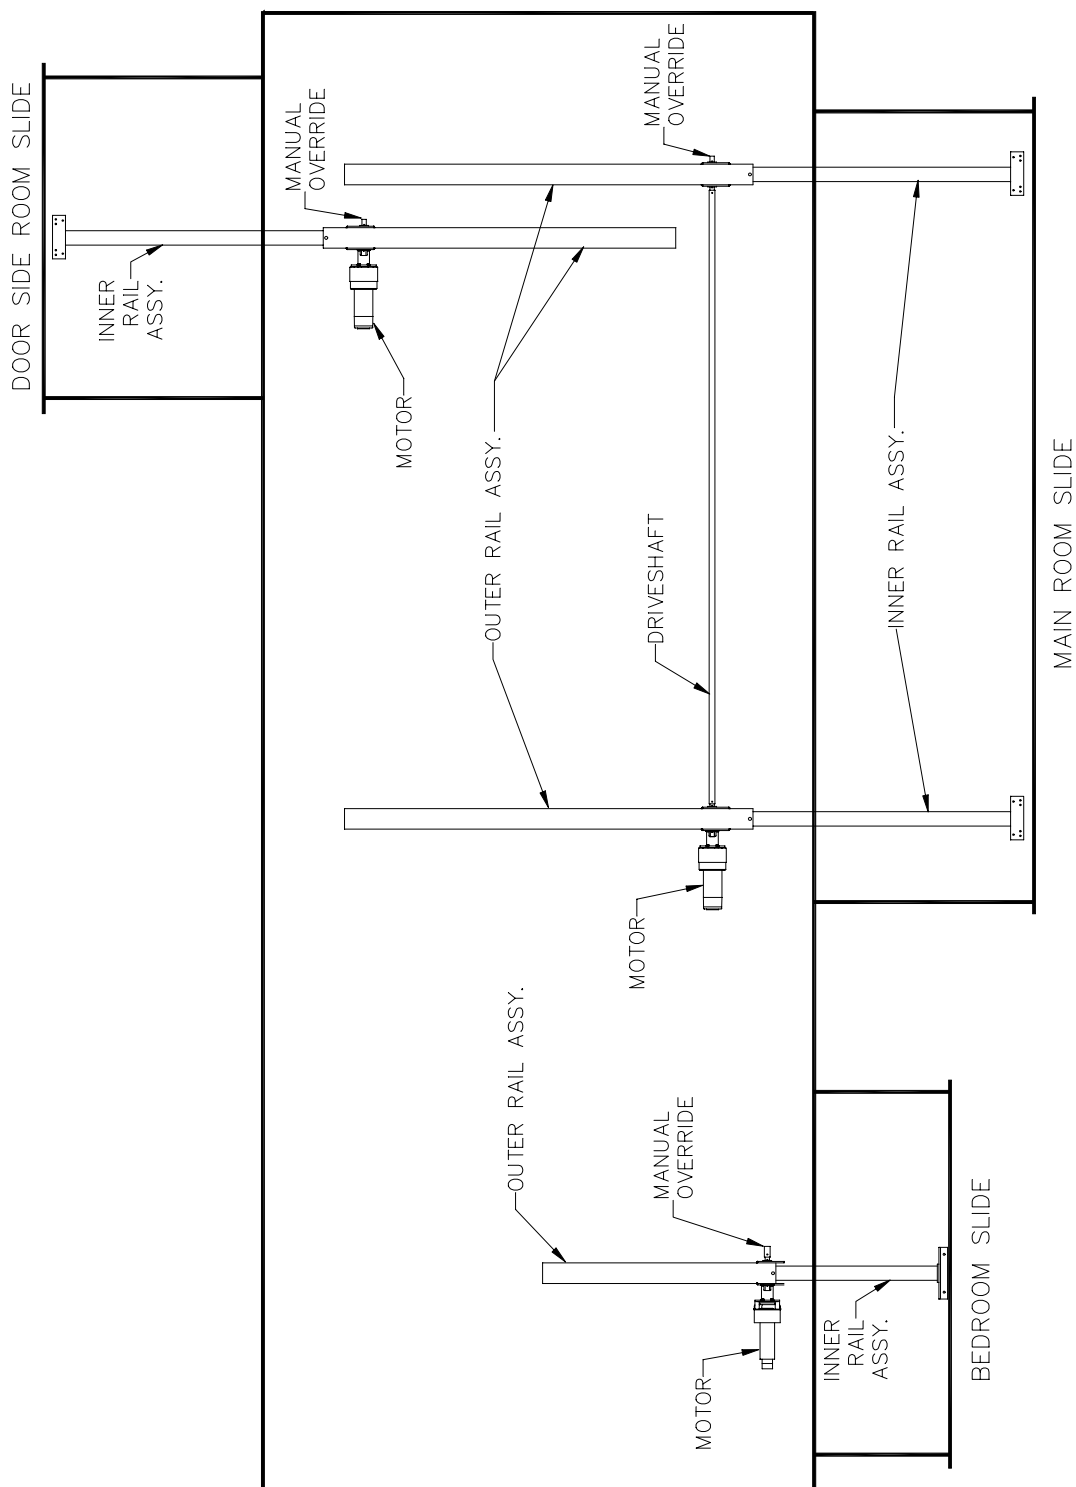

Fig. 4 Motor and Manual Override General Location
3. Locate the slideout motor (Fig. 4). It will be mounted to one of the slideout rails. **NOTE:** If the RV has an underbelly or a cover over the motor, these parts must be removed to access the motor.
5. Locate the manual override for the slideout system. Refer to Fig. 4.
- When the room is out, visually inspect the inner slide rail assemblies. Refer to Fig. 4 for location of inner rail assemblies. Check for excess build-up of dirt or other foreign material; remove any debris that may be present.